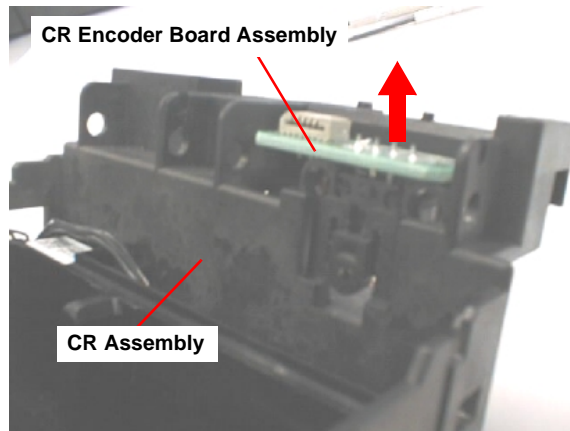

Figure 4-53. Removing the CR Encoder Board Assy.
- 5) Remove the CR Encoder Board Assembly from the CR Frame as shown in Figure 4-53.